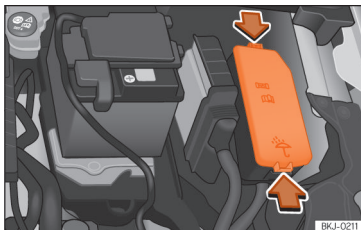

Fig. 162 In the engine compartment: lid of the fuse box.
- Press the locking tabs to unlock the fuse box cover >>> **Fig. 162.**